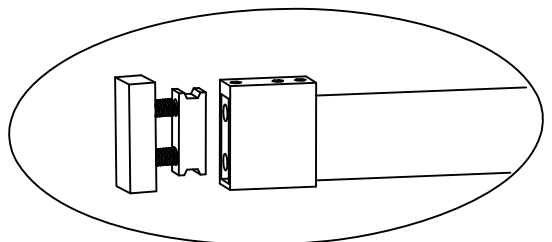

Fig. 11
- Locate the Rail Mount Assembly (22) and remove the stainless steel fitting and glass connector parts from the rail mount. Loosen the set screws in rail mount and slide onto end of Top Rail (2) making sure the end of rail mount which is with top and bottom set screws is facing toward end of Top Rail (2). Loosely tighten set screws in rail mount to secure. See Fig.11 for details